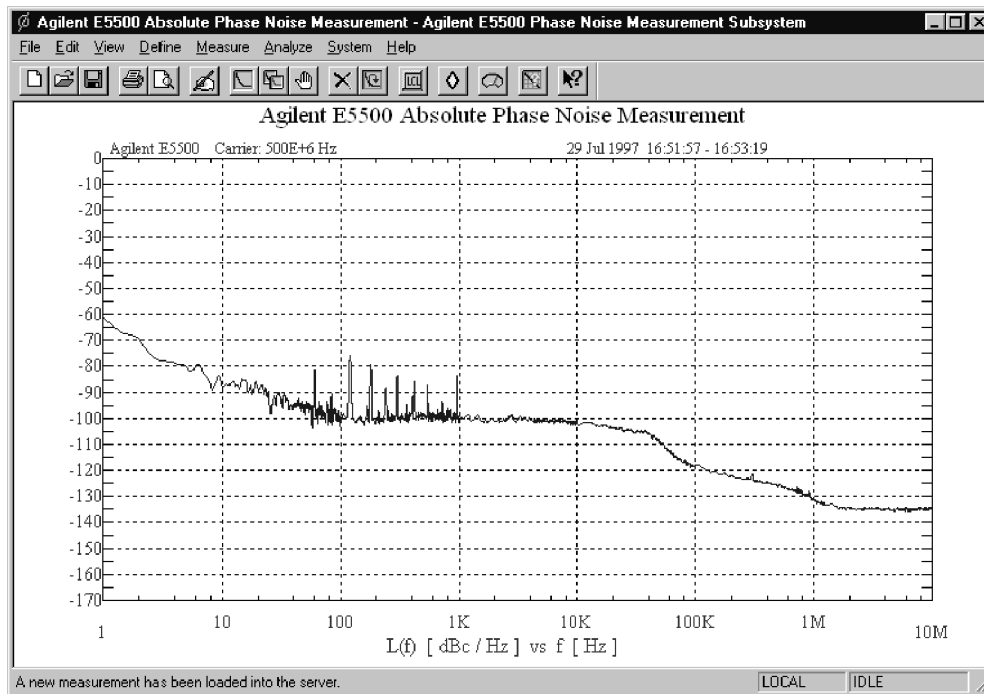

Figure 1-33 Main User Interface Screen
- 2 The main measurement subsystem window appears (Figure 1-33).